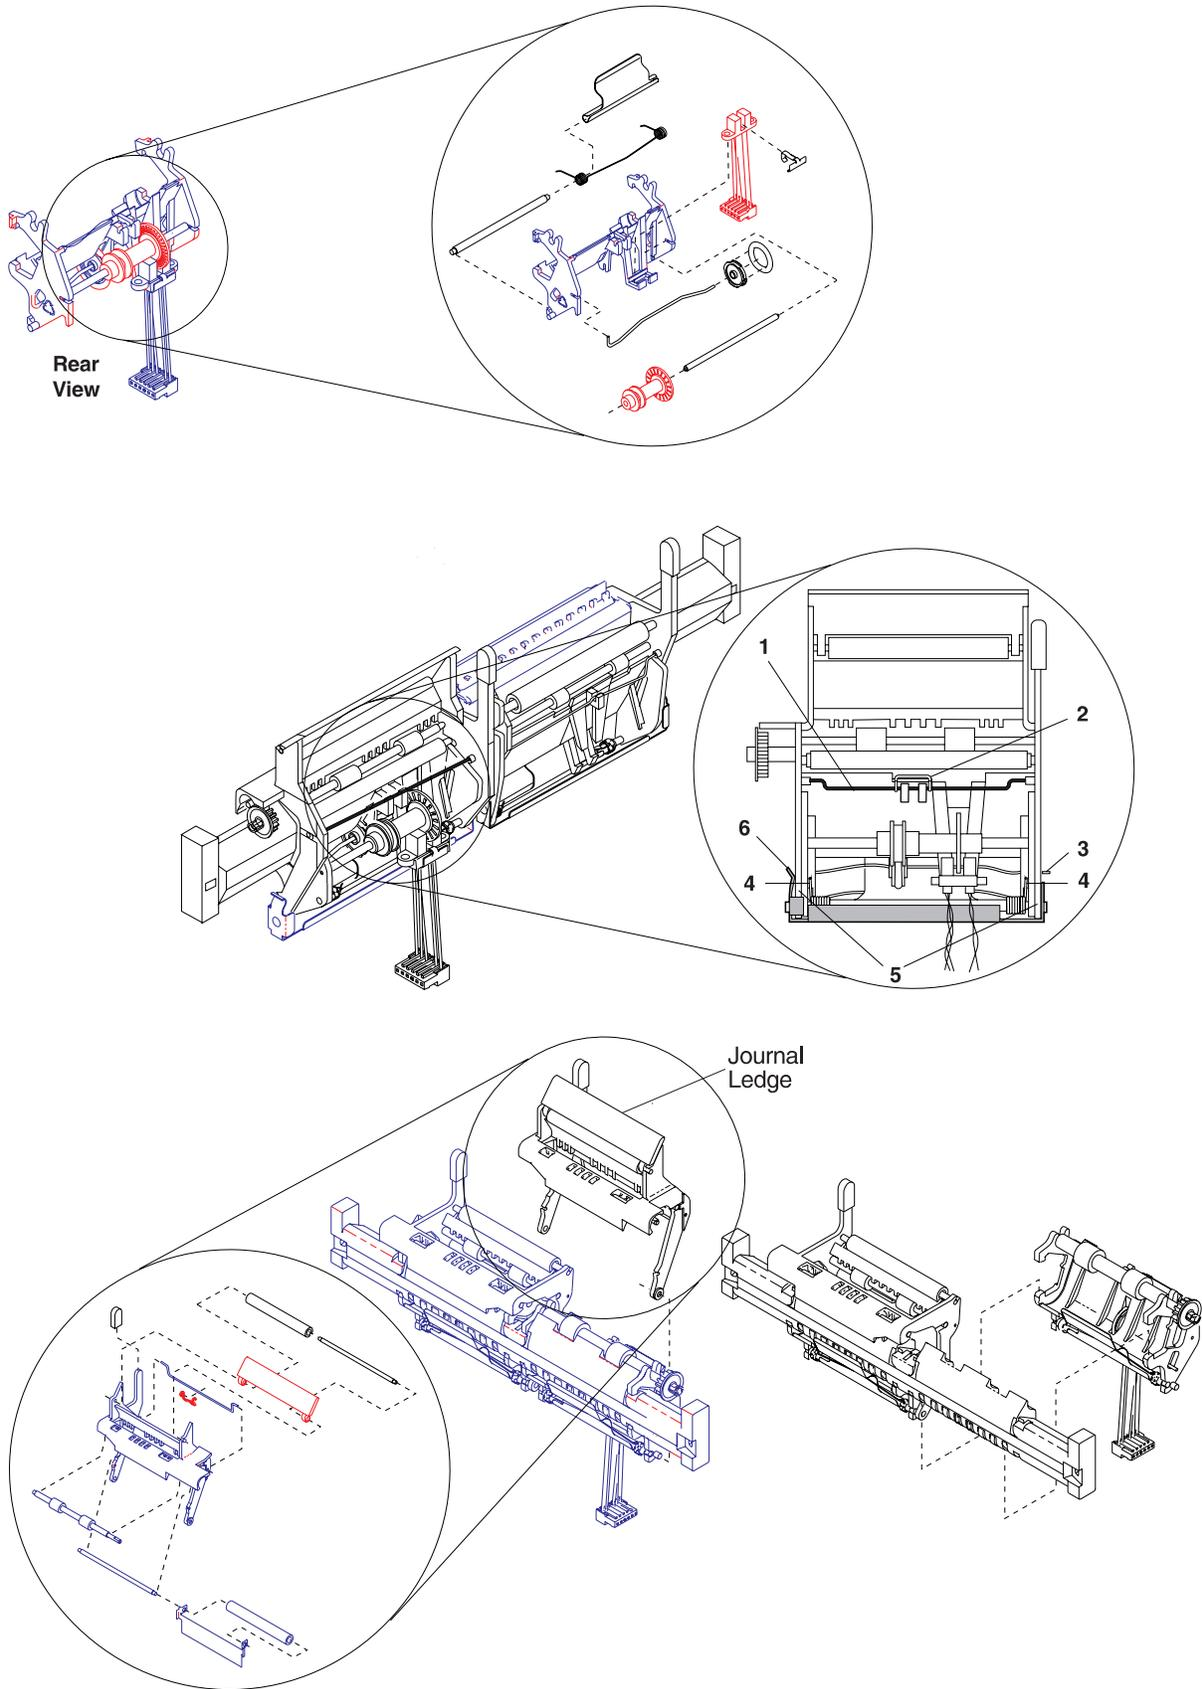

Figure 6-77. JNL Assembly
- 2 Gently spread the arms of the roller to allow the holes to fit over the posts on the frame. Reinstall the roller leg retainer (6).
- 3 Attach the toggle spring (1) at its center attachment point then install the toggle spring retainer clip (2). Ensure that the spring is correctly seated and that the roller moves back-and-forth correctly.
- 5 Reinstall the O-ring shaft (3) by inserting it through the hole in the outside leg of the roller, then snapping the shaft into the inside leg of the roller. Check that the bail springs (4) are correctly positioned. See Figure 6-77 on page 6-109.